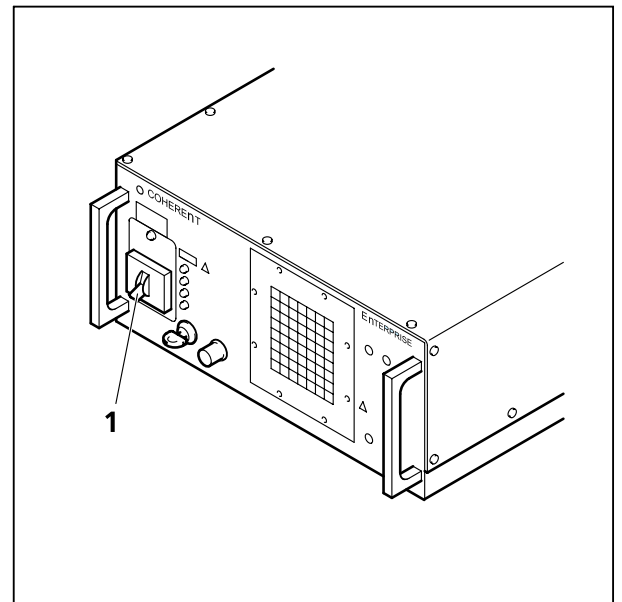

Fig. 2 Power supply of UV-Ar laser
- If the UV laser is required, switch it on via the toggle switch (Fig. 2/1) of the power supply.